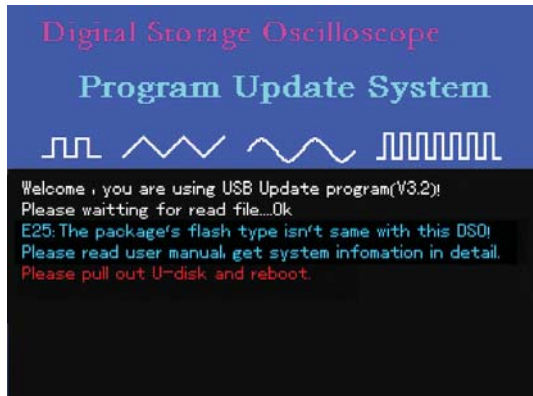

Figure 5-10
5. During upgrade, if the FLASH of the program upgrade document you copy or select is different from that of the Oscilloscope, the prompt in Figure 5-10 will appear: “E25 The package’s flash type isn’t same with this DSO! Please read user manual. get system information in detail. Please pull out U-disk and reboot.”